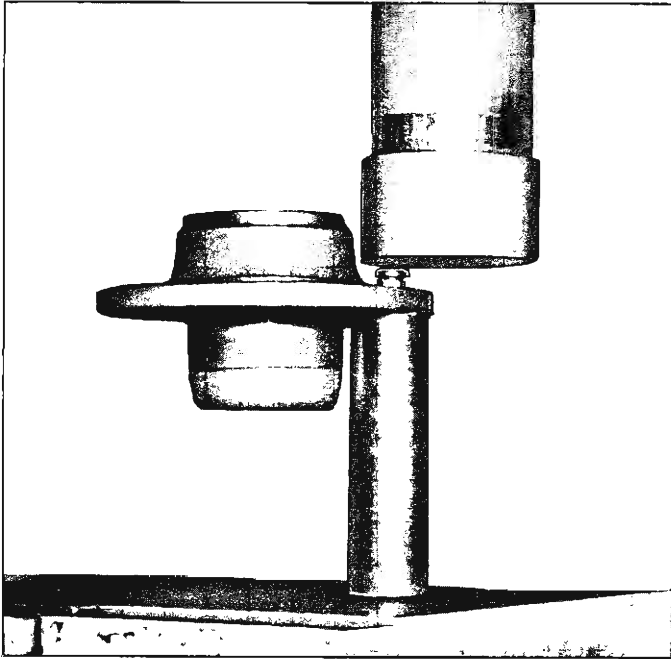

Fig. 7—Installing Front Wheel Hub Bolts
3. Press bolt into flange until head is fully seated against hub flange (fig. 7).